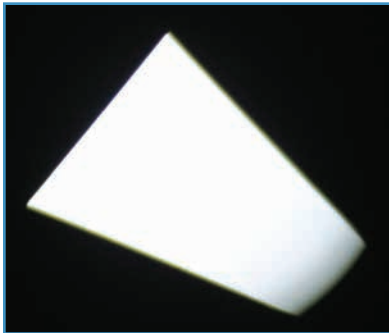

Figure 12: Shutter focus.
0.6 seconds for a blade to move from outside the beam to its maximum position. The blades don't meet in the middle—each covers less than 50% of the beam—so you can't black out with the shutters. Figure 12 shows an example of the shutter edge focusing. There is some focal difference between blades; the usual very fast optics are responsible for that. I also noticed some